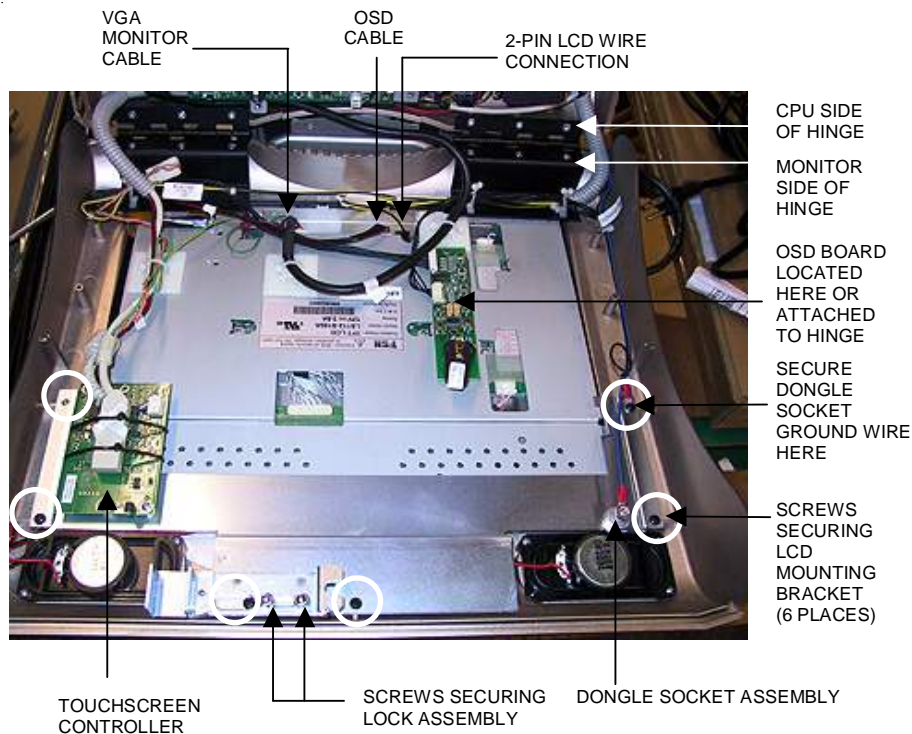

FIGURE 2 – FORESEESONS MONITOR IN ION COUNTERTOP GAME
3. Remove the screw and washer fastening the strain relief cord, then remove the remaining 5 screws fastening the LCD mounting bracket to the game. A ground wire may also become unsecured in the process. See Figure 2.
5. Carefully remove the tie wraps around the VGA monitor cable, then disconnect the cable from the monitor and remove the ground wire (a second ground wire may also be secured in the same location). See Figure 2.
6. Disconnect the OSD board cable from the monitor and if applicable, remove it from the twist clamps on the hinges. Then remove the OSD board from the Velcro attached to either the hinge or the back of the monitor and set it aside. See Figure 2.
7. Disconnect the 2-pin LCD wire connection from the monitor. See Figures 2 and 3.
If you replaced a Samsung or Kortek monitor: Place the provided hinge spacers underneath the existing hinges, between the monitor side of the hinge and the front bezel of the game. Secure the hinges and spacers to the front bezel using 3 screws per hinge. Use the 6 remaining screws to secure the 2 hinges – with front bezel attached – to the CPU section of the game. See Figure 2.
Ion games only: Fasten the dongle socket ground wire to the LCD mounting bracket screw designated in Figure 2. Then replace the dongle socket assembly by replacing the center contact button, mounting nut, wire and nut over the LCD mounting bracket.
23. Connect the 2-pin LCD wire connection to the reverse side of the monitor. See Figures 2 and 3. If your existing cable is not compatible with the new monitor, use the supplied cable.
24. Attach the supplied strip of Velcro to the back of the new monitor or hinge (wherever your old OSD board was mounted) then attach the OSD board to the Velcro. See Figure 2.
25. Connect the OSD cable to the monitor and secure it with the twist clamps. See Figures 2 and 3. If your existing cable is not compatible with the new monitor, use the supplied cable.
26. Connect the VGA monitor cable to the monitor, then secure the cable in place with adhesive tie-downs and tie wraps. See Figures 2 and 3. If your existing cable is not compatible with the new monitor, use the supplied cable.
27. Use an adhesive tie-down and tie wrap to secure the touchscreen controller wires, then secure the touchscreen controller and VGA monitor cable ground wires to the reverse side of the monitor with the supplied screw(s) and washer(s). See Figures 2 and 3.
24. Attach the supplied strip of Velcro to the back of the new monitor or hinge (wherever your old OSD board was mounted), then attach the OSD board to the Velcro. See Figure 2.